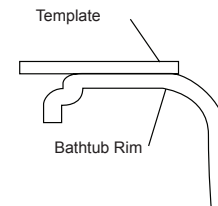

Figure 15 - Template Placement
- Position the template so that the desired undermount guidelines are aligned with the rim edge as shown (Figure 15).